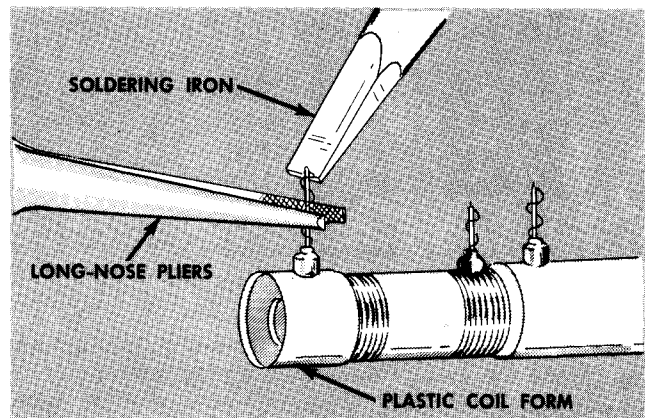

Fig. 4-3. Heat sink application when soldering to small or short lead components.
1. Use long-nosed pliers to act as a heat shunt between the soldering point and the component. See Fig. 4-3.